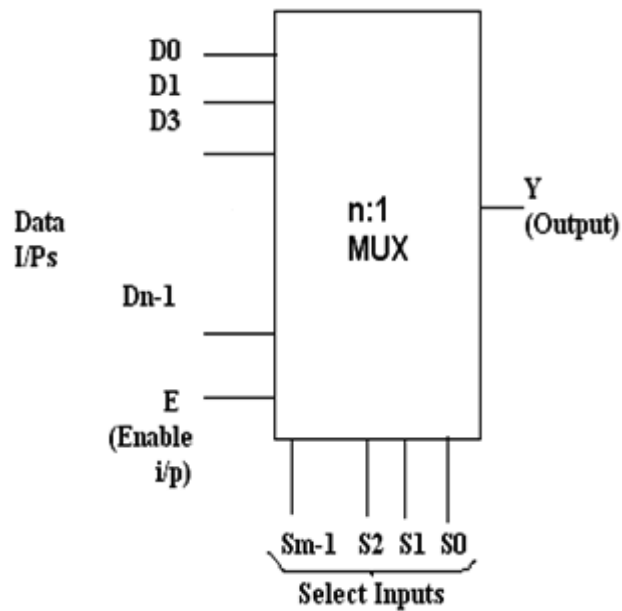

Figure 8.1 Block diagram of n: 1 Multiplexer
Multiplexer is a combinational circuit that is one of the most widely used in digital design. The multiplexer is a data selector which gets one out of several inputs to a single output. It has n data inputs and one output line and m select lines where $2^m = n$ shown in figure 8.1. Depending upon the digital code applied at the select inputs one out of n data input is selected and transmitted to a single output channel. Normally strobe (G) input is incorporated which is generally active low which enables the multiplexer when it is LOW. Strobe input helps in cascading. IC 74151A is an 8: 1 multiplexer which provides two complementary outputs Y and \bar{Y} The output Y is same as the selected input and \bar{Y} is its complement. The n : 1 multiplexer can be used to realize m variable function. ($2^m = n$, m is no. of select inputs)